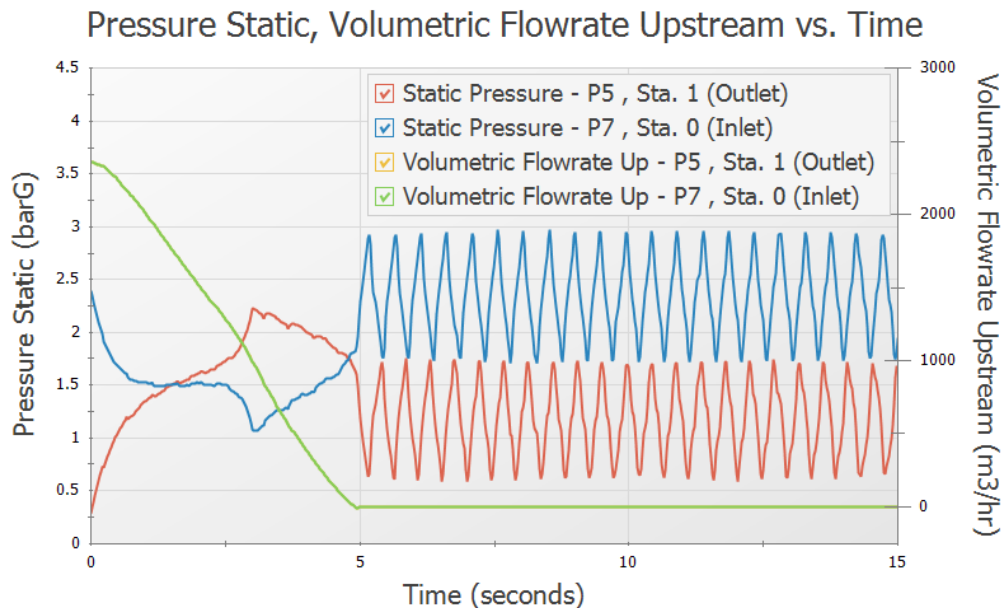

Figure 4.3 Pressure and volumetric flow rate transients using the standard pump curve data
7. Click Generate. The resulting pressure and flow transients are shown in Figure 4.3.
In Figure 4.3 you can see that the pressure increases at the pump inlet and decreases at the valve outlet until a maximum pressure of 2.24 barG at the pump inlet and a minimum pressure of 1.06 barG at the valve outlet is reached. The pressures then begin to oscillate once the discharge valve becomes fully closed.